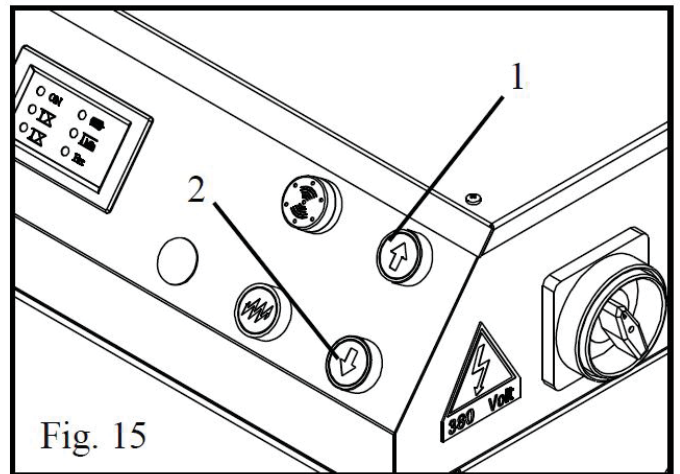

Fig. 15
- Push the lifting button (fig. 15 – 1) to feed the oil into the cylinders for approximately 30 seconds;
- Press the lowering button (fig. 15 – 2) with the leveling cocks turned on;